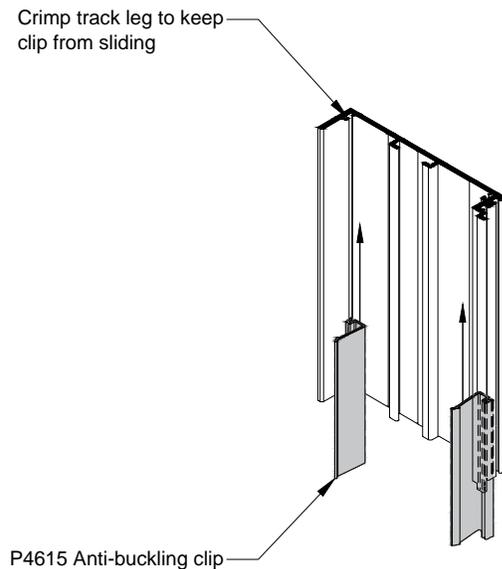

Fig. 35.1
- A. Slide P4615 anti-buckling clips into location on the female verticals. Refer to approved shop drawings for correct number and location. Note that it is best to locate clips at the top, bottom and mid-point of each frame unit for best results. Crimp clips into place. See Fig. 35.1.